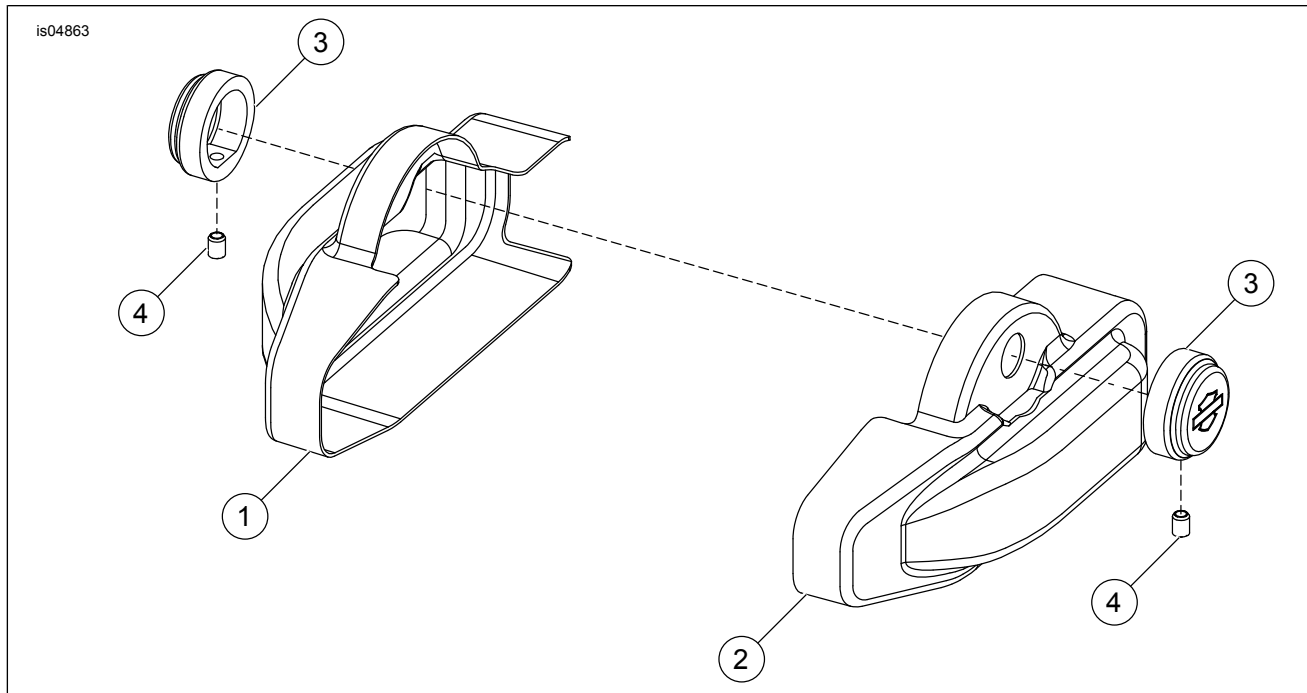

Figure 1. Service Parts: Swingarm Axle Cover
See Figure 1 and Table 1.
3. See Figure 1. Position right axle cover (2) over swingarm and behind shock.